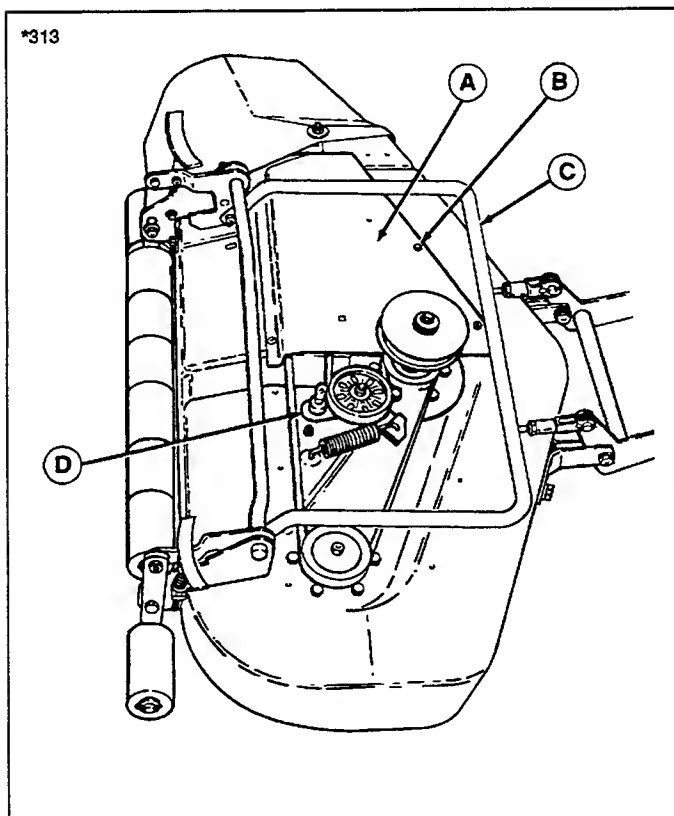

Figure 11. Idler Pulley Pivot
3. See figure 11. Remove the tapite screws to remove the R.H. cover. Both covers can be removed to check/clean mower deck.